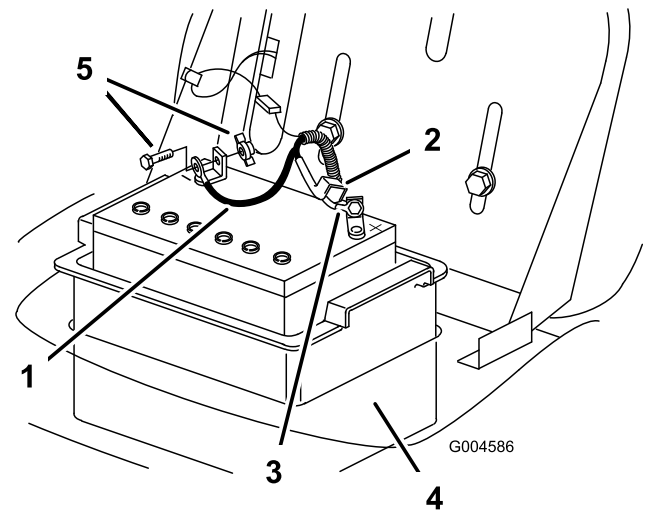

Figure 28
7. Disconnect the negative (black) ground cable from the battery post (Figure 28).
9. Disconnect the positive (red) cable from the battery post (Figure 28).
10. Remove the battery box and battery from the chassis (Figure 28).
1. Put the battery into the battery box and install it into the chassis (Figure 28).
2. Using the bolt and the wing nut, connect the positive (red) cable to the positive (+) battery post (Figure 28).
4. Using the bolt and wing nut, connect the negative (black) cable to the negative (-) battery post (Figure 28).